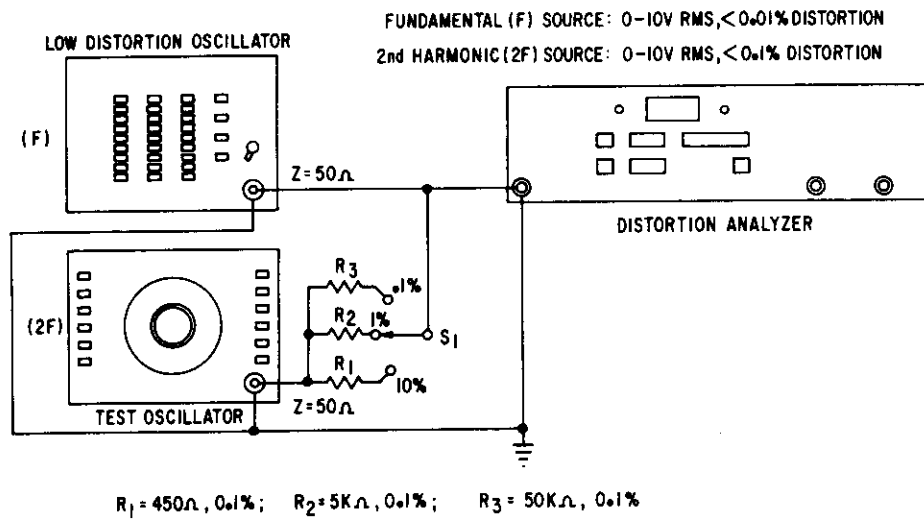

Figure 8. Calibration Set-up
- a. Set oscilloscope to the X-Y display mode; $.1mV/cm$. Connect oscillator (LD) output to the oscilloscope X input (horizontal). Adjust oscilloscope for a full screen deflection. Using X10 probe, connect oscilloscope Y input (vertical) to TP32. Press 30kHz filter (LED will come on). Check to see that Lissajous pattern is closed and flat. If off, adjust R791 and R810 to correct Lissajous pattern.
- a. Connect the test equipment as shown in Figure 8. Adjust oscillator (LD) 50 ohm output for exactly 5V rms at 200Hz. Adjust output of 2nd oscillator for exactly 4V rms at 2kHz. Press Distortion % key. Check for a display reading of $.80\% \pm .01\%$. If off, adjust R654 for correct reading.
- c. Set oscillator (LD) to 11kHz. Set 2nd oscillator to 110kHz. Check for a display reading of $.80\% \pm .01\%$. If off, adjust R670 for correct reading.
- d. Set oscillator (LD) to 100kHz. Set 2nd oscillator to 500kHz. Check for a display reading of $.072\% \pm .002\%$. If off, adjust R909 for correct reading.
Distortion; 1% (see Figure 8 on page 29)